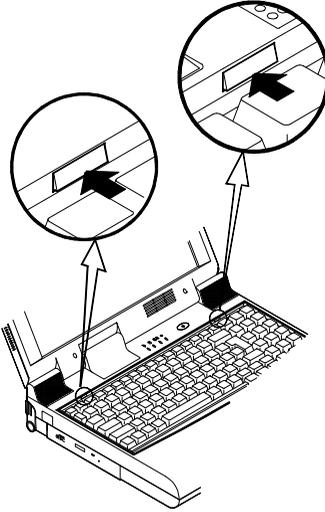

Figure 2-2
- 2** Press the two keyboard latches that hold down the keyboard to release it (Figure 2-2). Use a pointed device (for example, a pin) to press the latches.